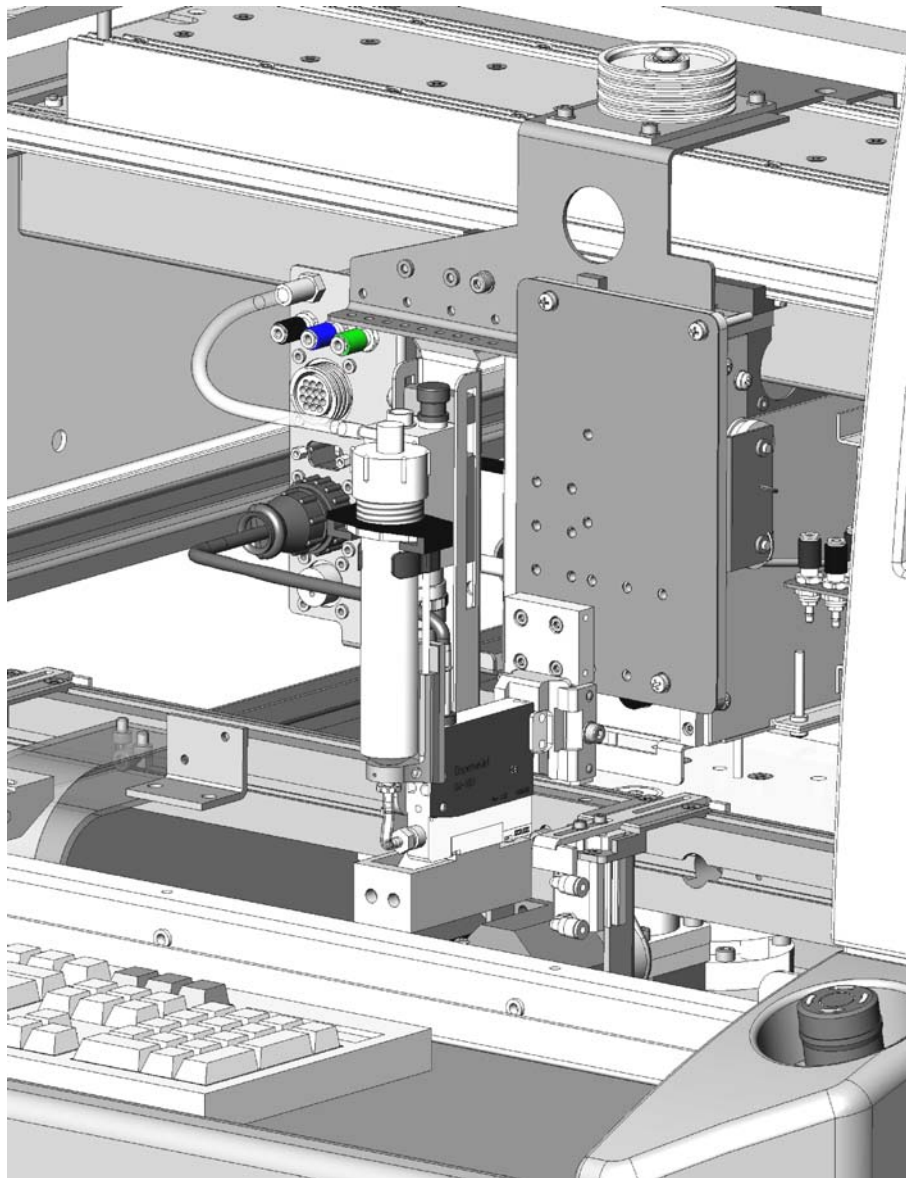
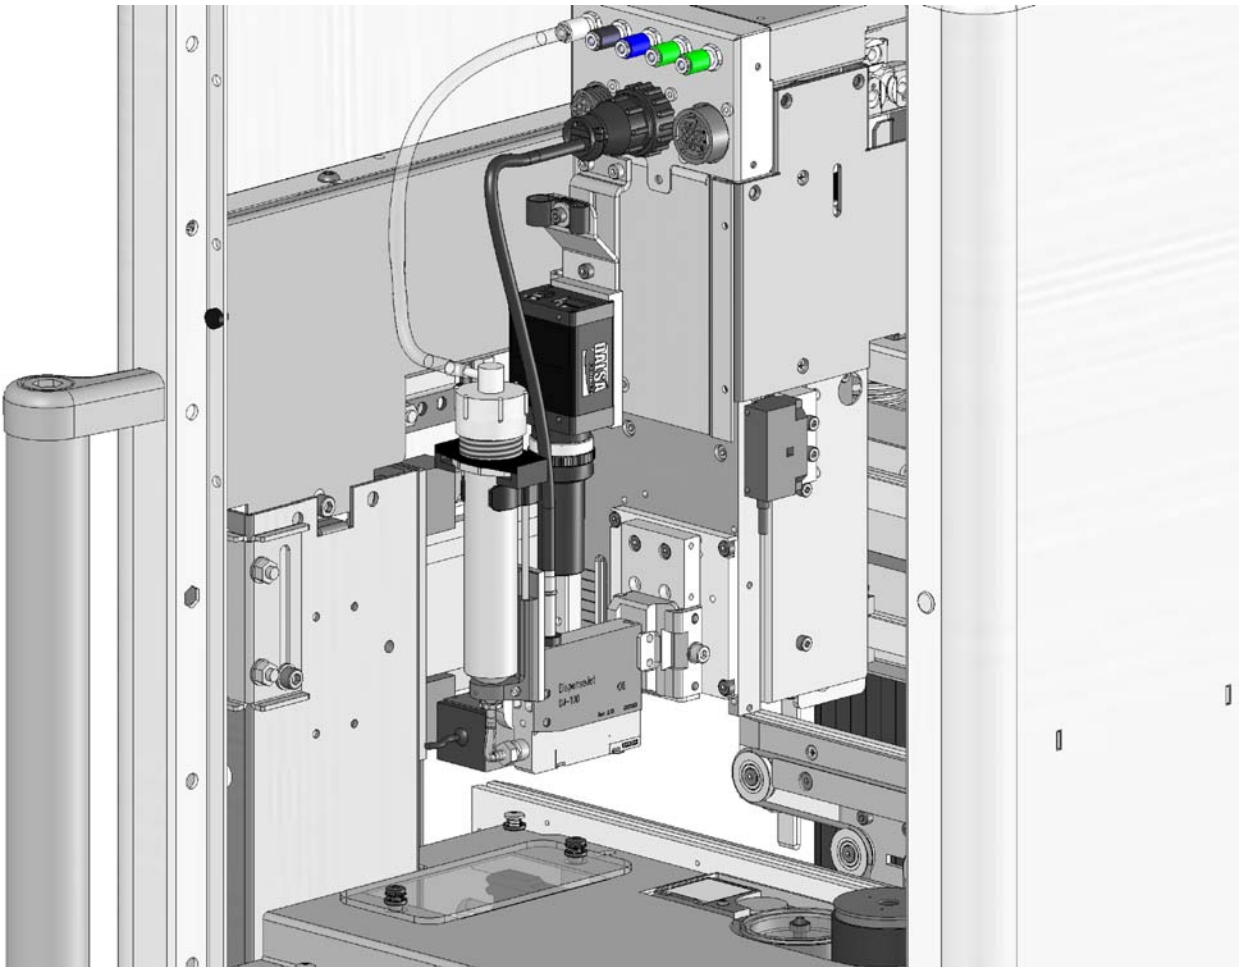

Figure 4-1 Connection Diagram – Axiom
Figure 4-2 Connection Diagram – S-920 Series
2. Make the electrical connections according to the appropriate machine configuration shown in Figure 4-1 and Figure 4-2.
3. Connect the pneumatic hoses as shown in Figure 4-1 and Figure 4-2. You should hear a click when the hose is inserted properly.
NOTE The connections in Figure 4-2 also apply to Asymtek's DispenseMate and Spectrum S-820 platforms.